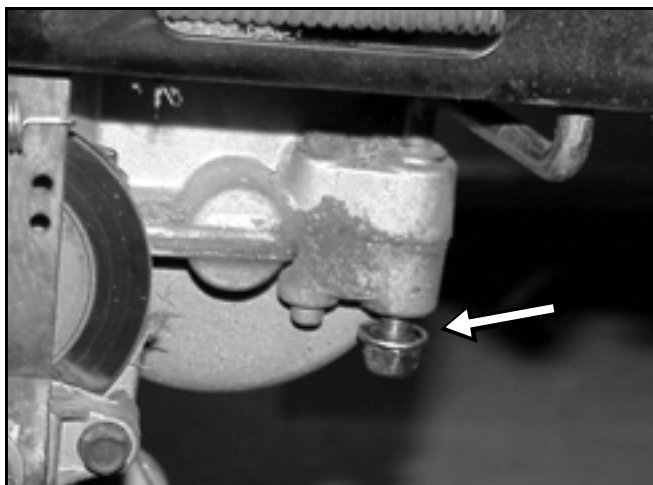

Figure 10
9. Remove **both** the top and bottom washer and nut from the right side torque strap (Figure 10).